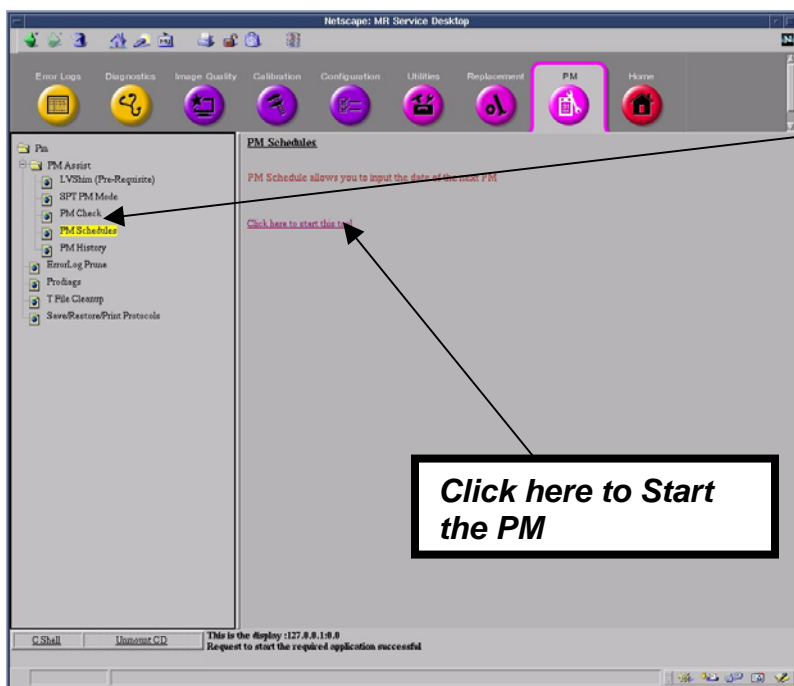

Figure 21
1. Click on PM Schedules in the expanded PM folder. **Figure 21 & 21a**. The right side of the screen will provide more details about PM Schedules and a link to start the PM Schedules tool.
2. Click on the Link “Click Here To Start This Tool” **Figure 21** to start the tool and open the PM Schedules tool **Figure X**.